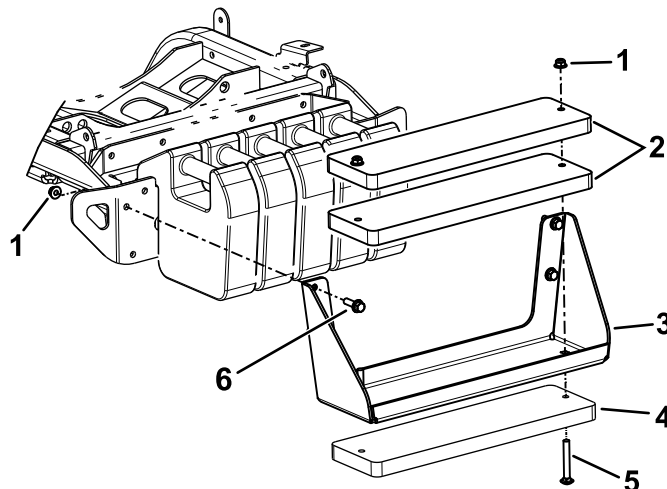

Figure 22
**Note:** Refer to Figure 22 for these steps.
- A. Use the bolts (3/8 x 4 inches) and nuts (3/8 inch) to secure the 3 weights to the bracket (Figure 22).
- B. Use the hex-head bolts and nuts (included in the kit) to secure the weight bracket to the machine (Figure 22).
- A. Remove the weight bracket from the machine (Figure 22).
- C. Use the bolts (3/8 x 4 inches) and nuts (3/8 inch) to secure the 3 weights to the bracket (Figure 22).
- D. Use the previously removed hardware to secure the weight bracket to the machine (Figure 22).